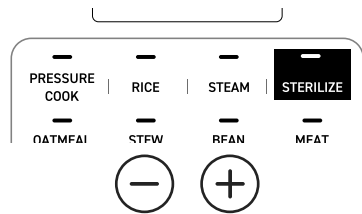

Figure 9.5
2. Select **STERILIZE** and press the **-** or **+** buttons to adjust the time if desired. [Figure 9.5]